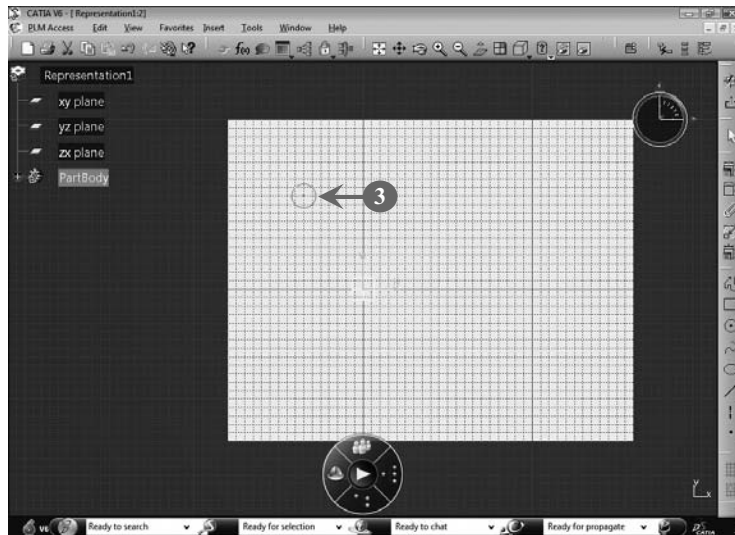

FIGURE 3.114
3. Add the shape to the sketch in the Sketcher workbench. In our case we add a circle, as shown in **Figure 3.114**: